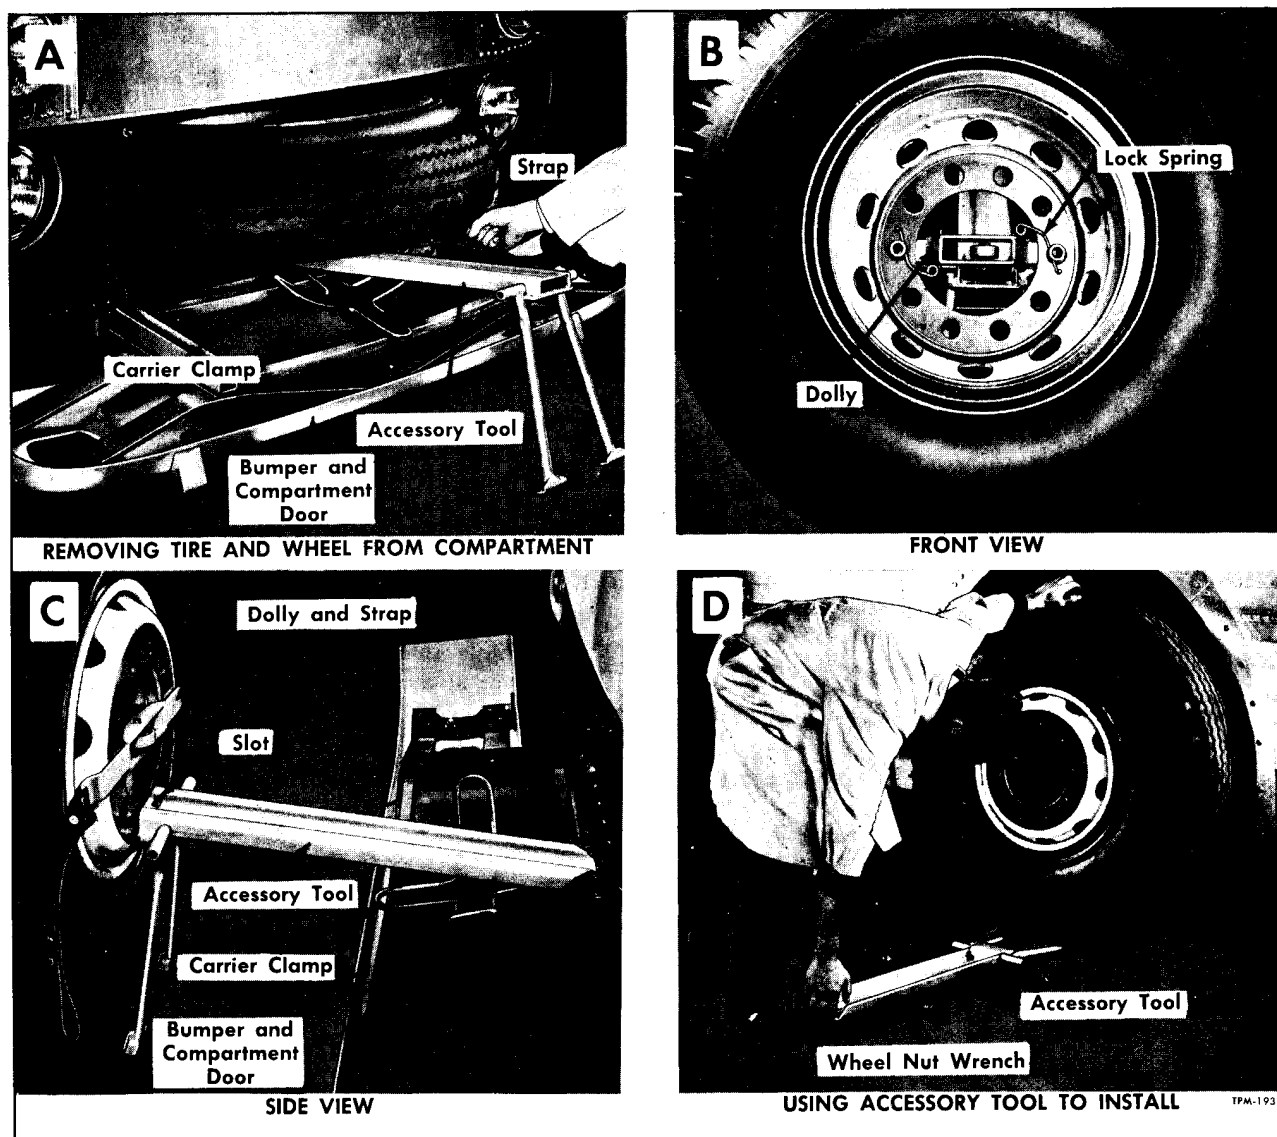

Figure 3—Method of Handling Spare Wheel and Tire (Using Special Accessory Tool)
2. Lower spare tire carrier clamp shown in A, figure 3, then position spare tire accessory tool as shown in C, figure 3.
3. Grasp strap of spare tire dolly (A, figure 3) and pull spare tire with dolly upward and slowly forward until wheel of tire dolly drops into slot in accessory tool (C, fig. 3).
4. Turn tire, wheel, and dolly 1/4 turn and lower tire and wheel to floor as shown in View B, figure 3. Wheel on dolly will engage slot in accessory tool and prevent tire and wheel from slipping off accessory tool and causing injury.
5. Place tire and wheel fully on floor as shown in View C, figure 3, then remove dolly and strap by releasing two lock springs which attach dolly to wheel.
6. Open accessory tool to full length and place wheel nut wrench at lifting end of tool as shown in View D, figure 3, then roll wheel and tire on accessory tool. Lift on end of accessory tool to raise tire and wheel onto hub (View D, figure 3).
1. Position accessory tool as shown in View C, figure 3.
2. Install dolly and strap on wheel by locking two lock springs which attach dolly to wheel as shown in View B, figure 3.
3. Place wheel on accessory tool with dolly in position as shown in View C, figure 3.
4. Turn wheel and tire 1/4 turn so that wheel on dolly will run parallel with accessory tool, then slide wheel, tire, and dolly into compartment as shown in View A, figure 3.